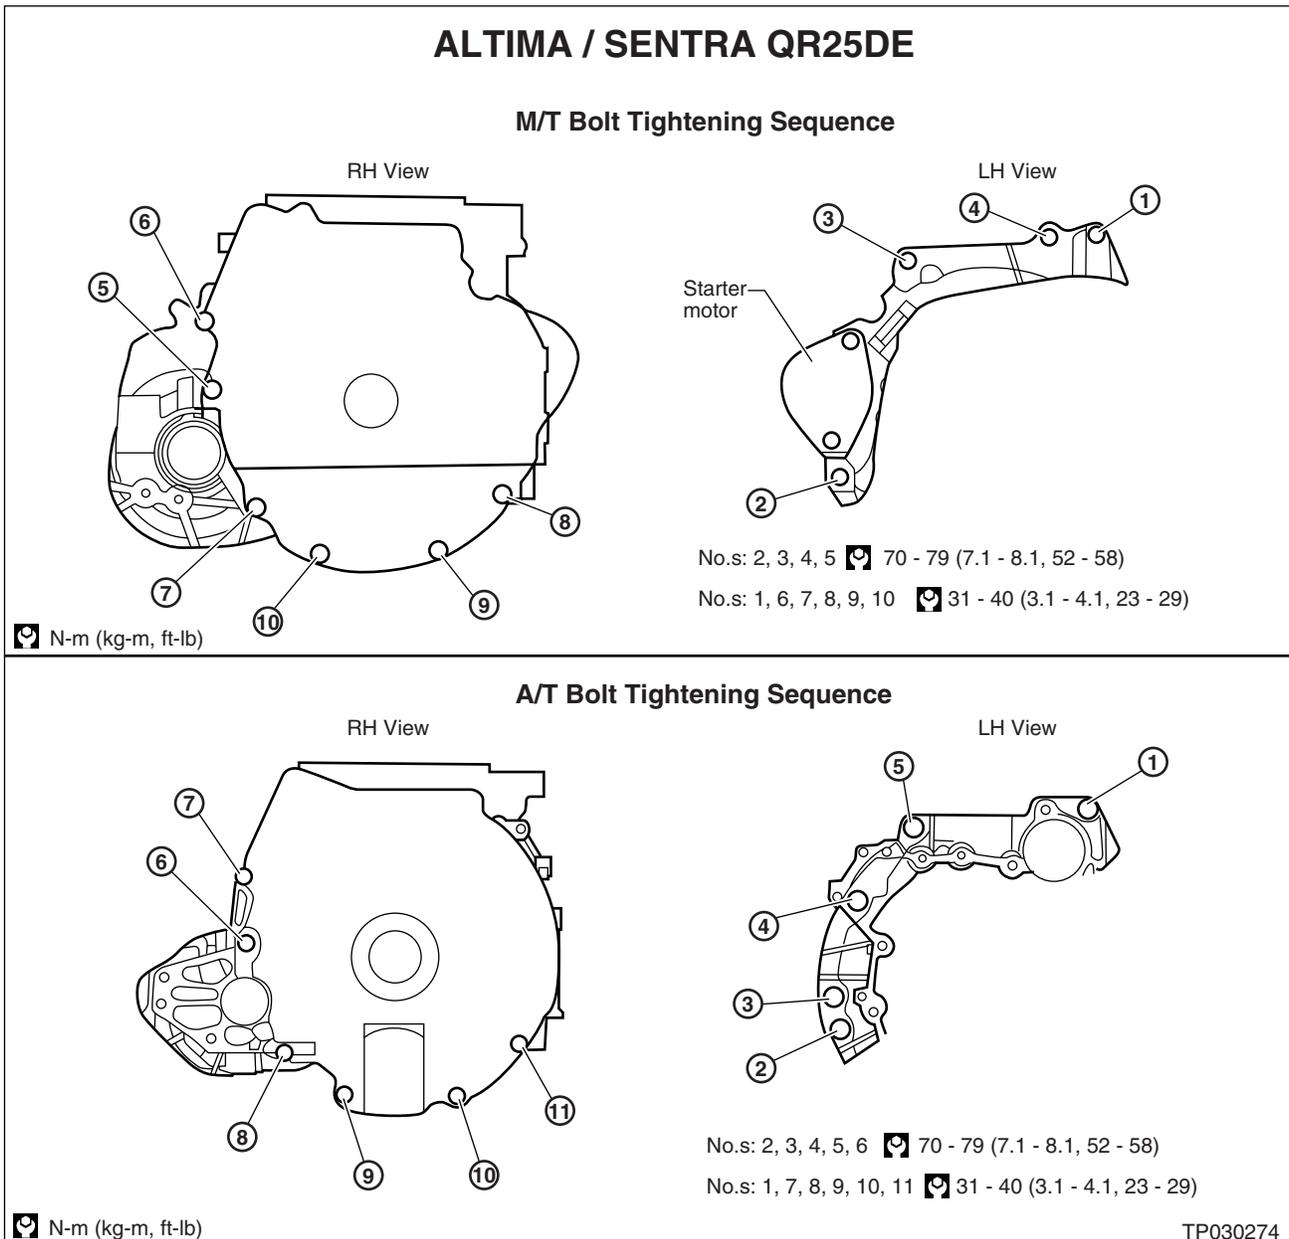

Figure H13
- Tighten the bolts that secure the transmission bell housing to the engine in the sequence shown in Figure H13 below.